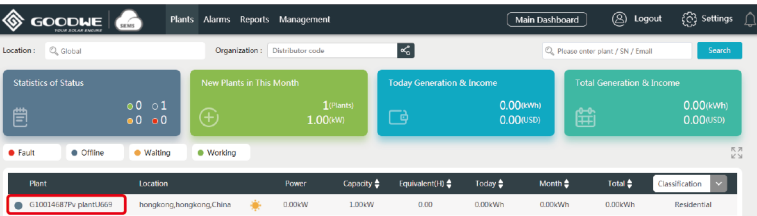

Figure 6.2-1 Check the PV Plant
Step 2: Click the plant name as figure 6.2-1 below.